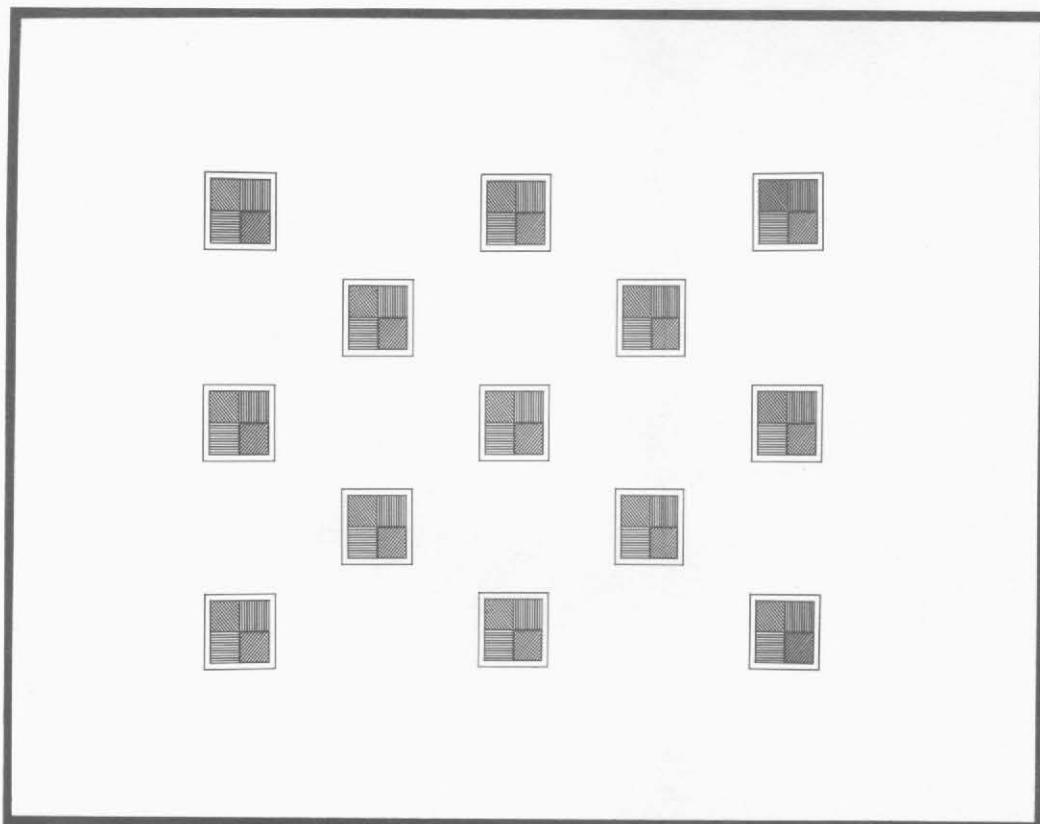

Figure 5-10. Test Pattern for Focus Adjustment
- . Compare the pattern on screen with that shown in figure 5-10.